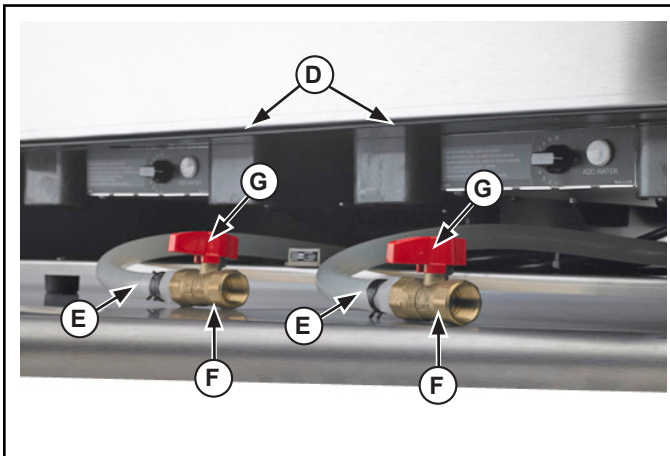

Figure 3. Cover, Drain Hose and Drain Valve
- Open the access door (D) and turn the open/close lever (G) to the closed position. See Figure 3.